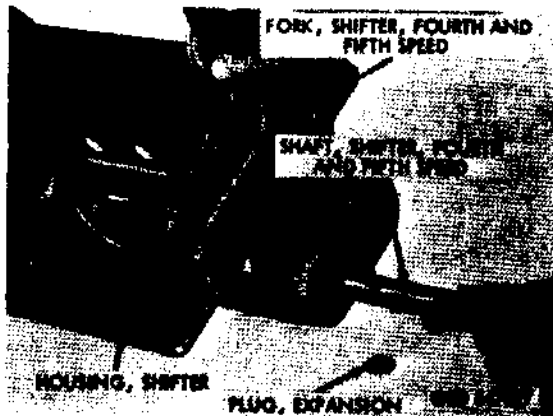

Figure 271. Removing shifter shafts and forks
- (c) Use shifter shafts to tap out expansion plugs (fig. 271) from shifter housing. Pull fourth and fifth speed shifter shaft from shifter housing and lift out shifter fork. Remove first and reverse, second and third speed shifter shafts and forks in the